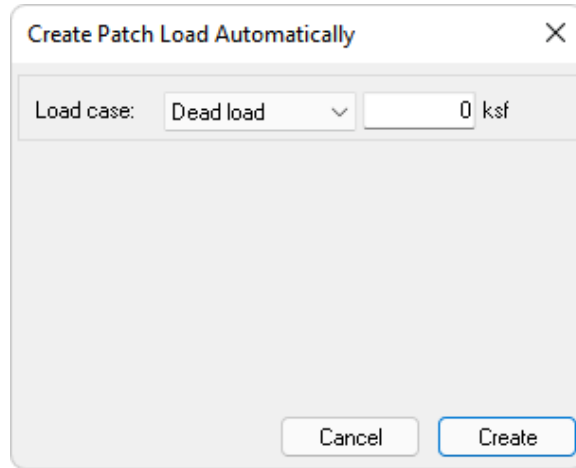

FIGURE 8-4
- Go to *Loading->General* and click on the **Patch Load Wizard**  icon. This will open the *Create Patch Load Automatically* dialog window shown in **FIGURE 8-4**.